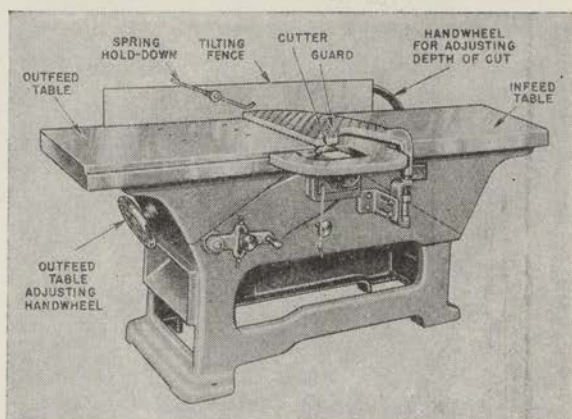

FIGURE 63.—Jointer.
(4) Band resaws also are often used in woodworking shops. These are similar to ordinary band saws, except that vertical power-driven rollers in front automatically feed the lumber to the saw. Band resaws are used mainly for sawing a thick board into thinner ones when the cut needed is too deep for a circular rip saw; for example, to cut a 6- by 3-inch board into three 6- by $\frac{7}{8}$ -inch boards. A saw wider than an ordinary band saw is needed to insure a true cut in this work. When stopping work for the night, release the tension on the band saw or band resaw so that the wheels will not develop a wobble and make the saw run untrue.
(5) Only the largest shops have the equipment and experienced operator for sharpening band saws; they are usually sent to a professional saw filer.
d. Jointer (fig. 63).—The jointer is used for the same purpose as the hand jointer (plane) described in paragraph 8*h*, that is, to straighten, or true, surfaces and edges. It is more accurate than the hand jointer because the table of the machine is longer than the bottom of the plane. To use this machine, one must hold the work against the fence so that the surface to be cut is resting on the infeed table. As the work is fed into the cutter, the guard will move over far enough to allow clearance. One can adjust the depth of the cut by turning a handwheel, or can make a bevel up to 45° by tilting the fence.